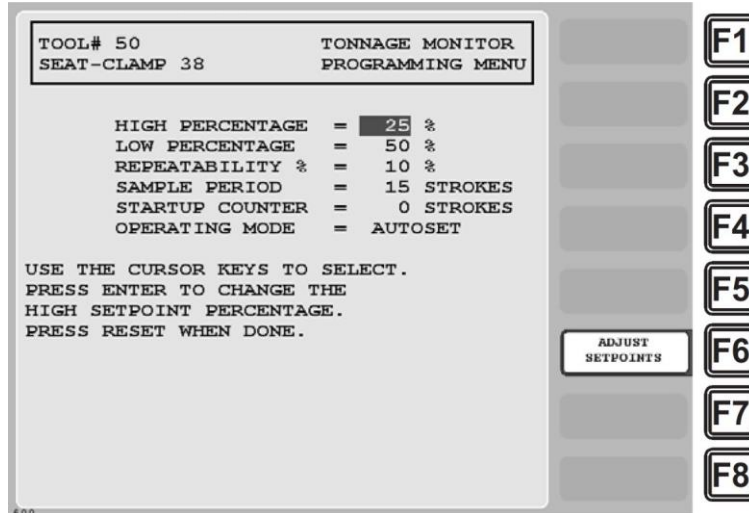

Figure 4-5. Tonnage Monitor Programming Menu
- Select "TONNAGE/WAVEFORM." The Tonnage Monitor Programming Menu (see Figure 4-5) displays.
To make settings on the Tonnage Monitor Programming Menu, perform the following steps, referring to Figure 4-5 and Table 4-1, page 97: